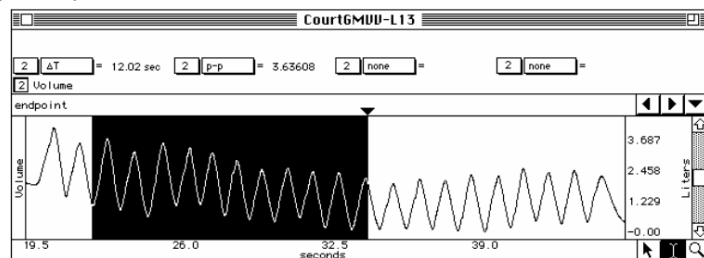
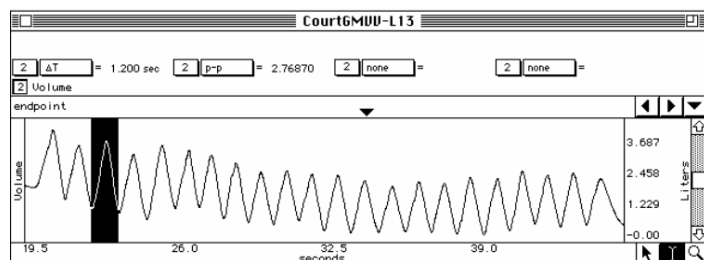

Fig. 13.22
Fig. 13.23
11. Use the **I-beam** cursor to select a twelve-second area that is convenient to count the number of cycles in the interval (Fig. 13.22).
The example shown in Fig.13.22 is a 12-second interval with about 10.5 cycles. The selected area shows 10 complete individual cycles and one incomplete cycle at the end.
12. Place a marker at the end of the selected area (Fig. 13.23).
Fig.13.23 shows the first cycle of the 12-second interval defined in Fig. 13.22 selected: